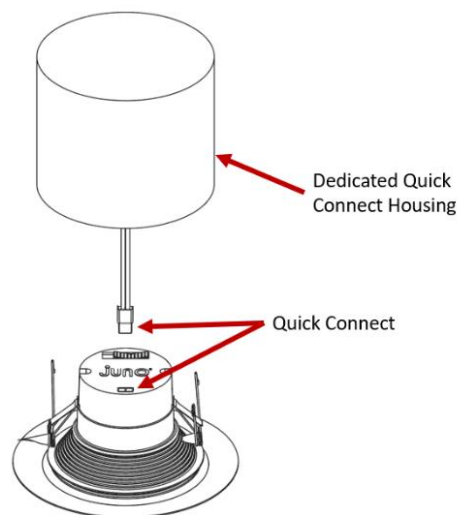

Figure 3
- II. **Installation into dedicated quick connect housings:** Plug the connector from the dedicated Quick Connect housing into the mating orange connector on top of the module's trim. Push firmly to ensure connectors are securely fastened (see Figure 3). **DO NOT LET THE MODULE HANG UNSUPPORTED BY THE ORANGE QUICK CONNECTOR!**